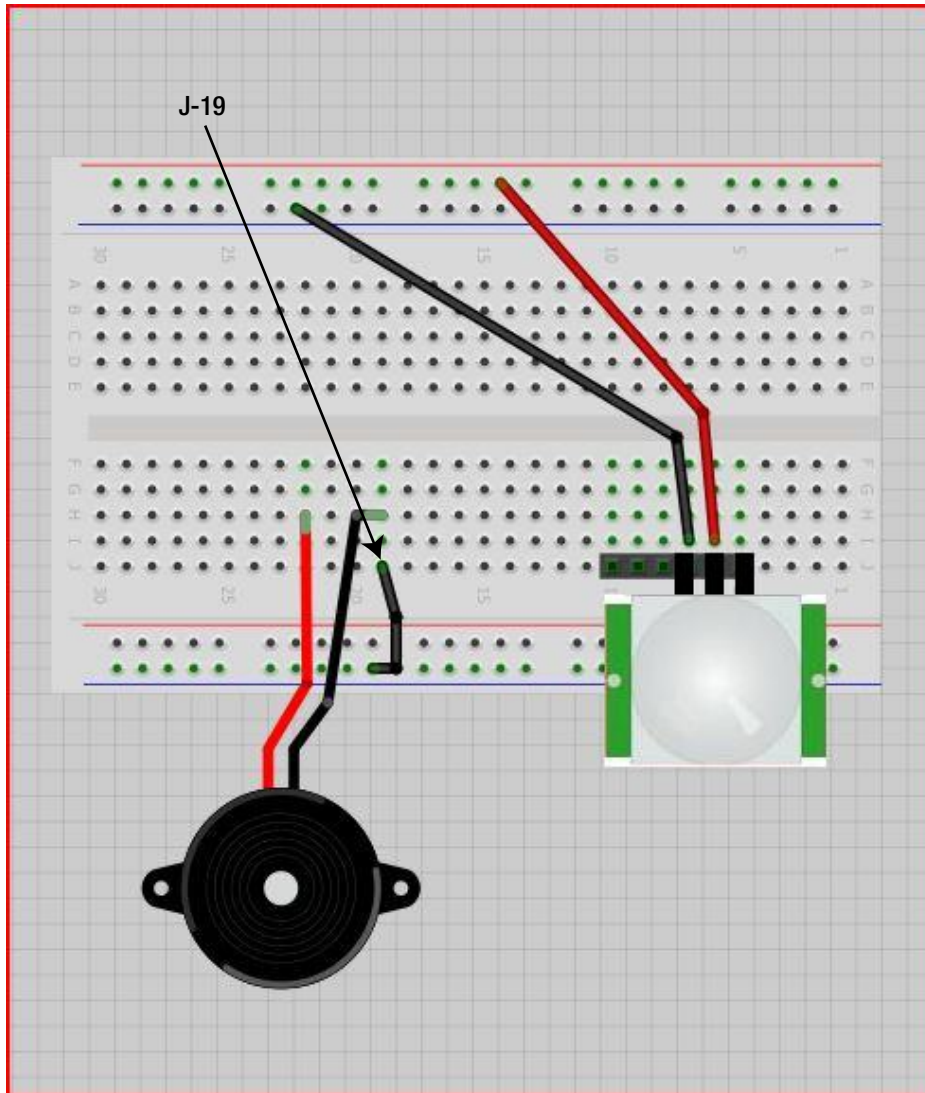

Figure 19-8. Connect ground to the buzzer
- Now it's time to wire up the buzzer. Connect the buzzer (J-19) to the ground rail on the solderless bread board by adding a black wire from J-19 to the GND column row 19. Figure 19-8 illustrates this process.